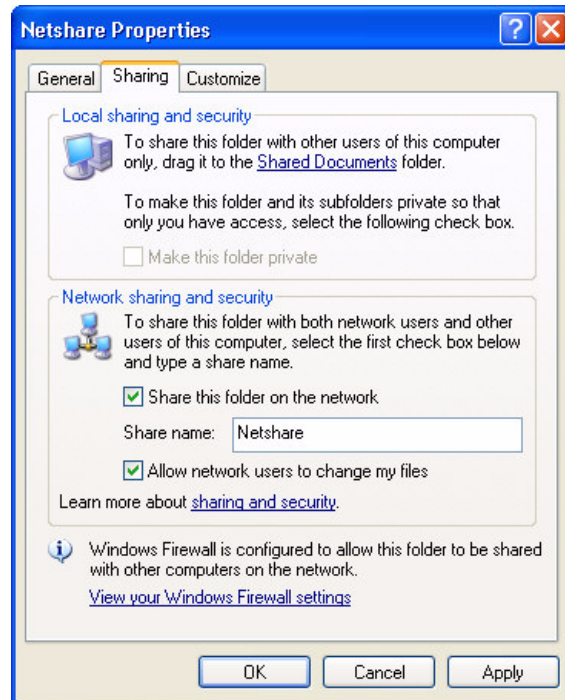

Figure D-7 Netshare Properties (Simple File Sharing ON)
3. If you have Simple File Sharing enabled, the following Netshare Properties dialog opens to the Sharing tab (Figure D-7).
4. If you see the Netshare Properties dialog from Figure D-7, select **Share this folder on the network** and **Allow network users to change my files** as shown in Figure D-7.